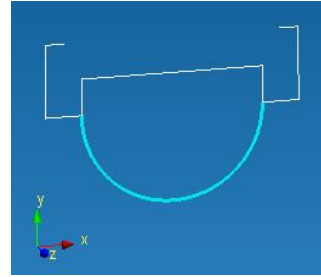

Fig. 2.7.7 Result of selection in case of a branched contour
**IMPORTANT!!!** Sections should belong to different sketches. The contour should be unambiguous – without any branching. At the selection of the branched contour (both closed and unclosed) objects between branching points (Fig. 2.7.7) will be selected.